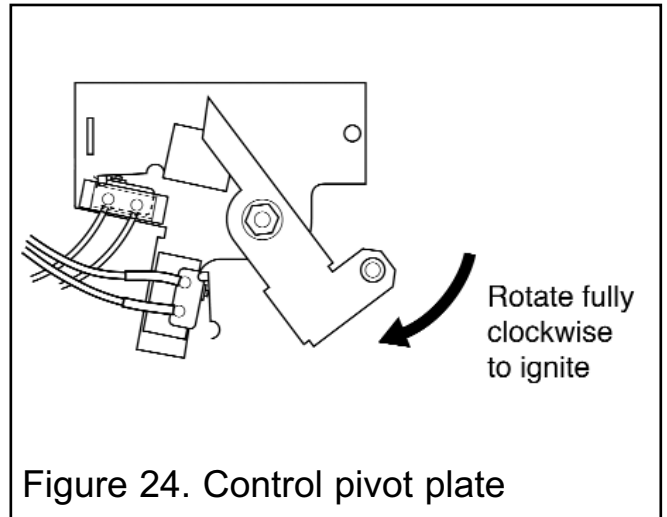

Figure 24. Control pivot plate
2. Depress the control pivot plate / control knob as far as it will go and hold in this position (See figure 24). This should close the ignition circuit and simultaneously open the gas tap allowing the gas to flow to the pilot.